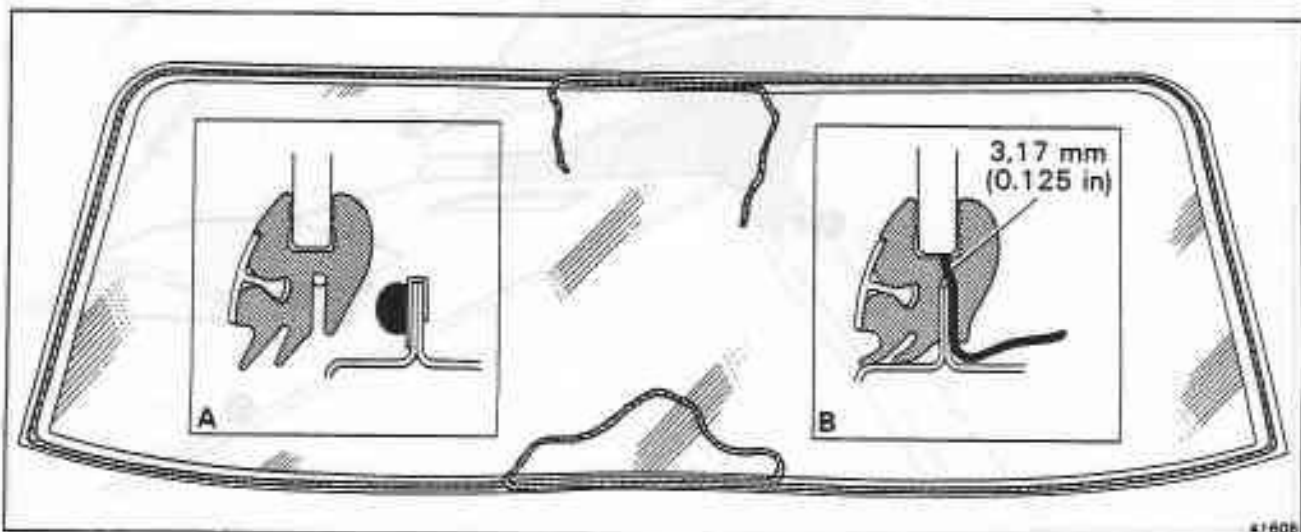

Fig. S9-3 Position of cord and sealing arrangement
2. Apply a layer of black waterproof tape to the aperture flange (see fig. S9-3, inset A). The tape should be turned over the edge of the flange for approximately 12,70 mm (0.50 in).
Remove the seal, then pierce two 3,17 mm (0.125 in) holes through the rubber (see fig. S9-3, inset B). Fit the seal to the glass, threading the demister leads through the holes in the rubber.
6. Turn the window over so that the internal surface is uppermost. Thread a length of cord around the inside lip of the seal (see fig. S9-3). Leave a loop in the cord at the bottom of the window and overlap the two ends of the cord at the top. Secure the loose ends of the cord and the demister leads to the glass with masking tape.
7. Using a sealant cartridge gun, run a continuous 6 mm (0.250 in) diameter bead of Arbomast Autograde Sealant or Seelastik around the window aperture flange (see fig. S9-3, inset A). Apply an additional bead of sealant to each lower corner area of the aperture.